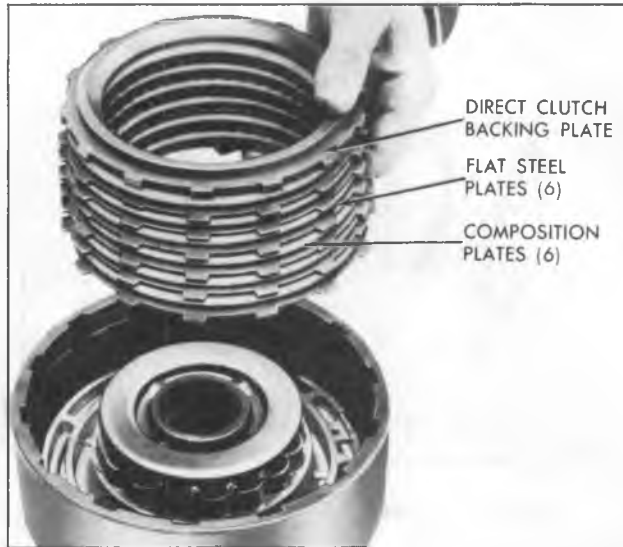

Figure 82—Installing Direct Clutch Backing Plate, Composition Plates, and Steel Plates
8. Install six (6) composition and six (6) steel clutch plates, starting with steel and alternating composition and steel (fig. 82).